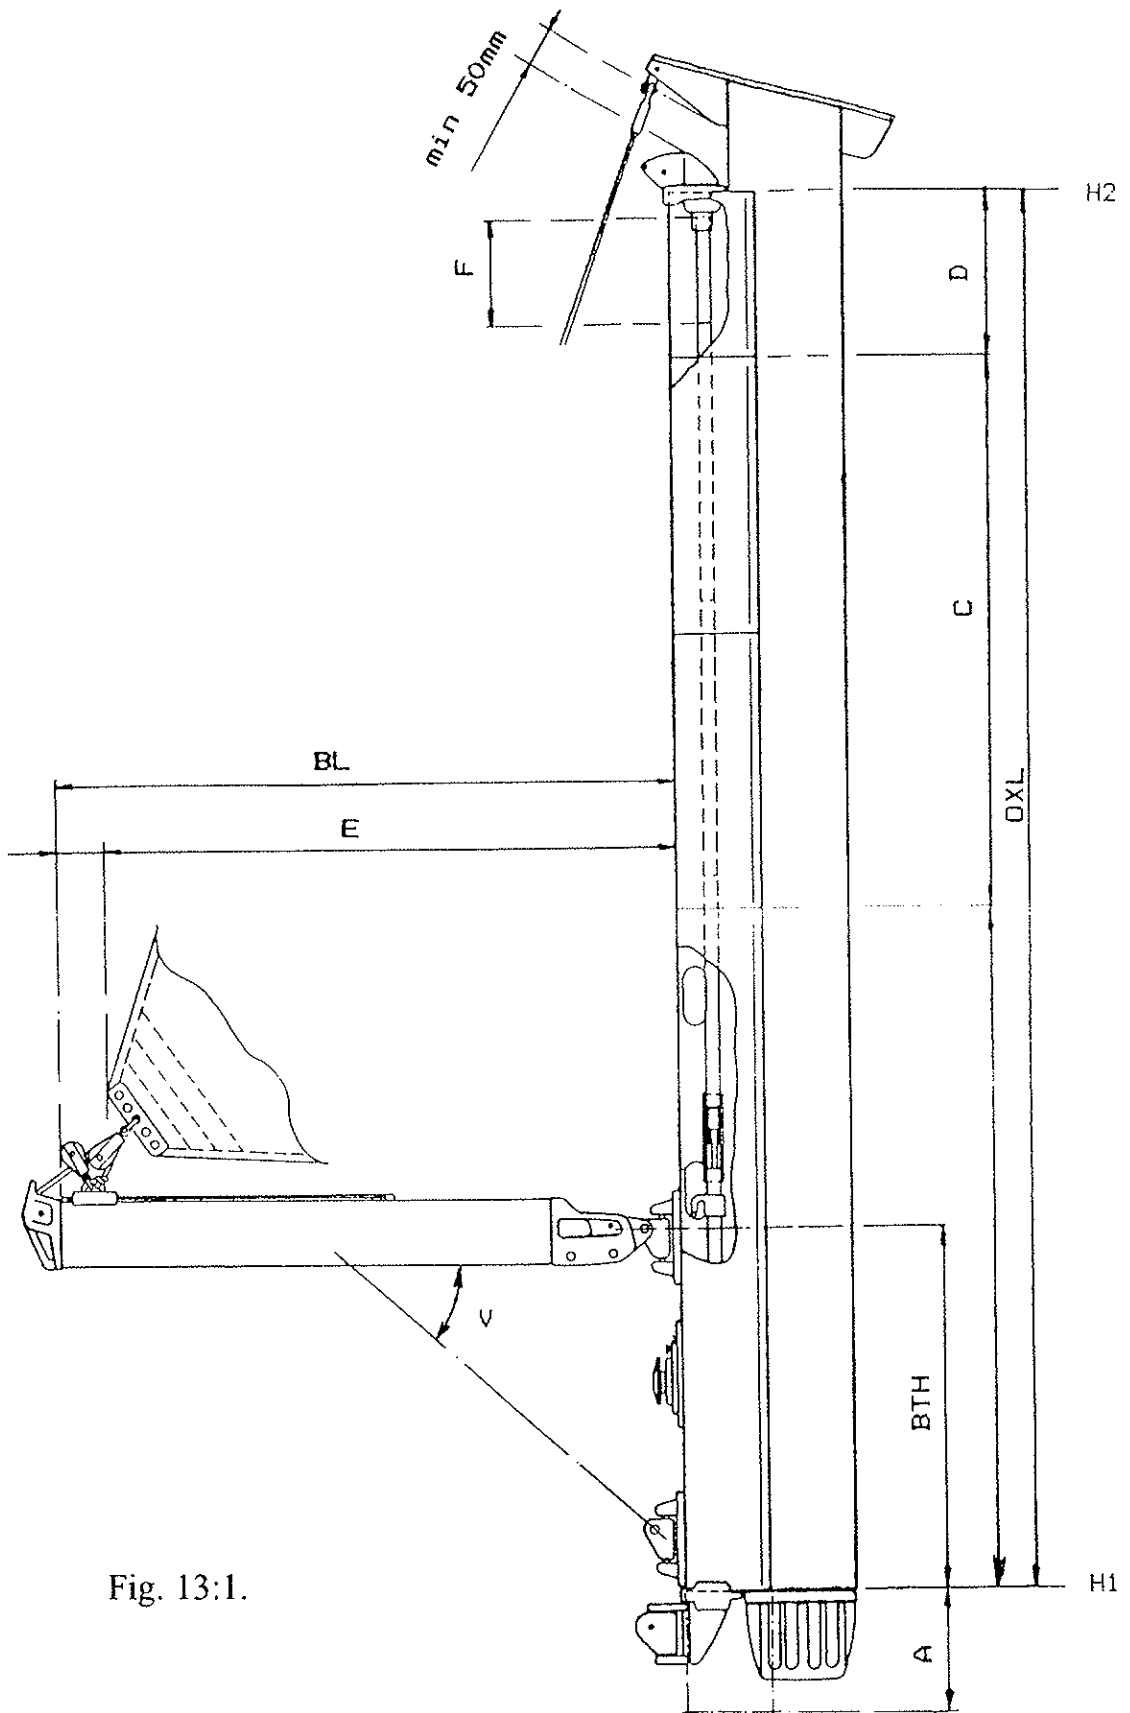

Fig. 13:1.
Note ! Refer to Fig. 13:1 for the measurement symbols.
4. Check out the highest position for the outer extrusion on the mast. Do this with the extrusion sample and Top Fitting. The Top Fitting must be at least 50mm from the existing Top Fitting (see Fig. 13:1). Check that the halyard can run freely, and that the backstay is free.